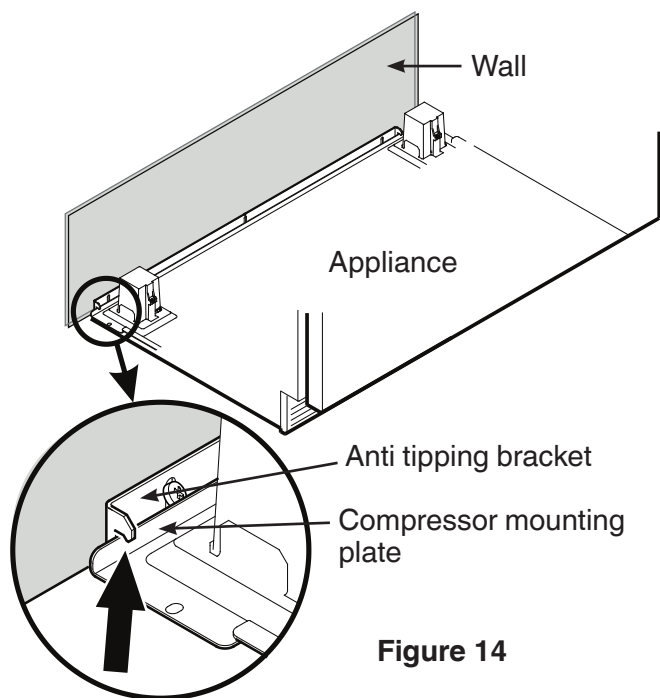

Figure 14
4. Push the appliance slowly to the back wall until the compressor mounting plate makes contact with the anti-tipping bracket (Figure 14).
To prevent the appliance from tipping forward the compressor mounting plate must have contact with the anti tipping bracket (Figure 14).